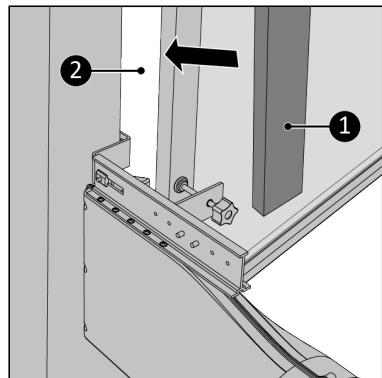

Figure 75.
17. Fill up the open spaces (Figure 75, pos. 1) with the delivered isolation foam (Figure 75, pos. 2), cut the foam if necessary*.